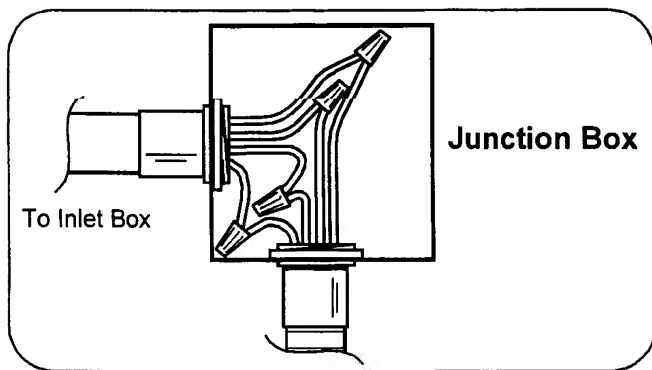

Figure 5. Junction Box Wiring (Typical)
10. Connect and secure the wires inside of the junction box. Refer to Figure 5.